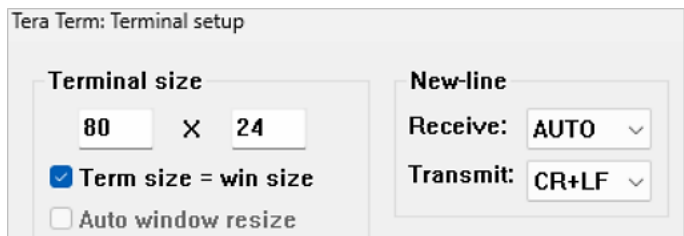

Figure 17. Tera Term New-line configuration
- **RA6W1 CLI console** (Type-C cable): It is used to power the RA6W1 as well as to access the CLI console to view logs. The baud rate should be set to 115200. Also, you need the setting shown in Figure 17 in terminal for New-line receive and transmit.